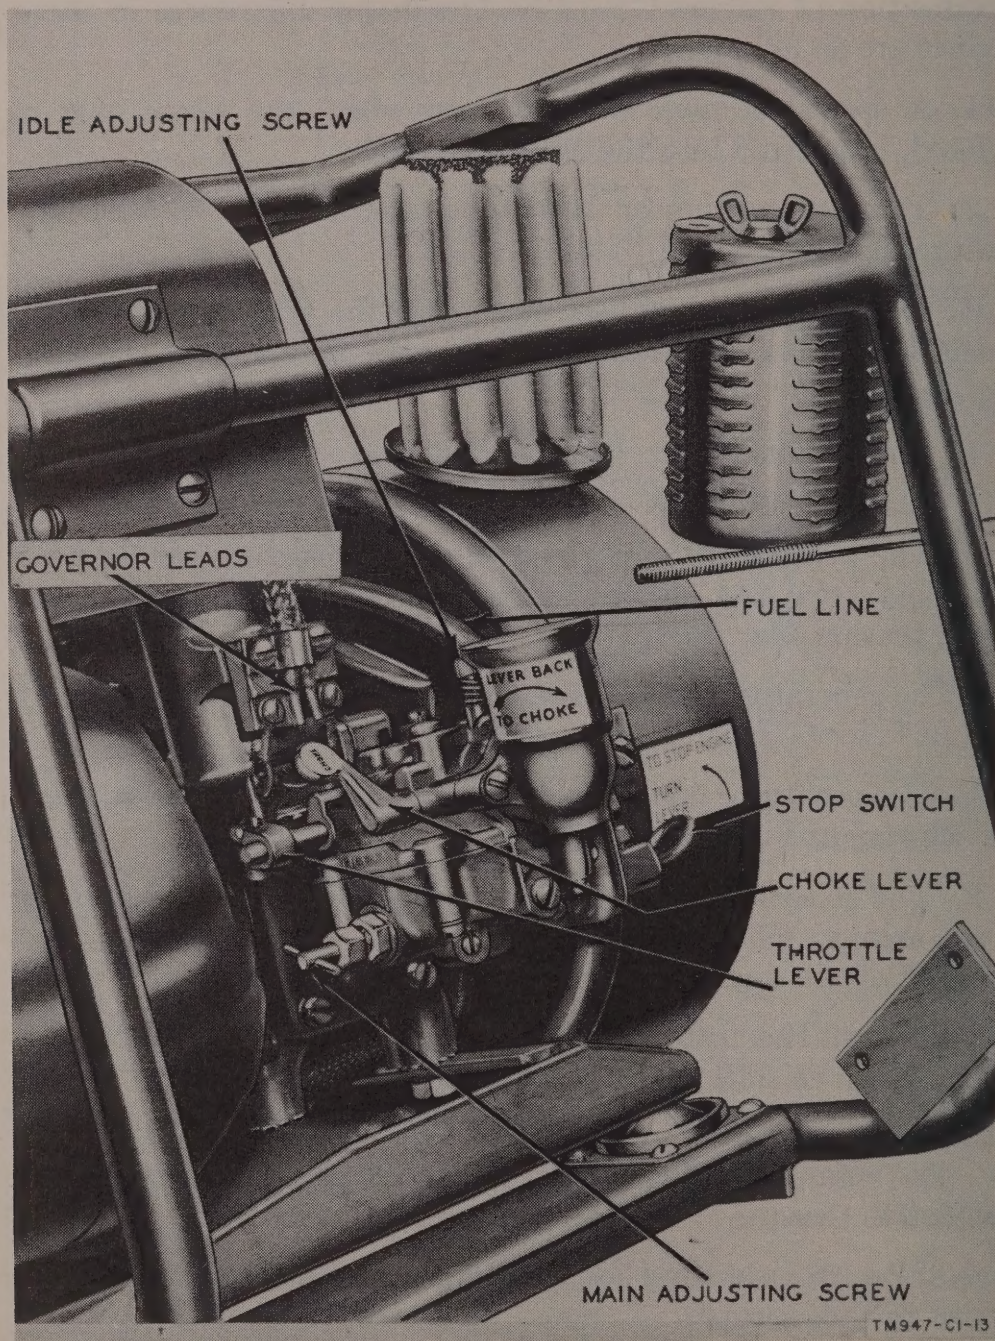

Figure 7.1. Power Unit PE-210-B, carburetor adjustments and controls.
Page 13. Fig. 7. Insert figure 7.1 after figure 7.
a. ROPE STARTING POWER UNIT PE-210-B. (1) The carburetor adjustments have been factory set and, unless changed, do not need readjustment each time the engine is started. See paragraph 67.1 for instructions for carburetor adjustments.
(2) Move the choke lever to the closed position (fig. 7.1). To close the choke, pull the choke lever toward the air cleaner.
(3) Slip the knotted end of the starter rope into the notch of the starter pulley and wind it clockwise around the pulley. Hold the unit frame with one hand and pull the starting rope up sharply with the other hand. If the engine does not start after four or five crankings, refer to paragraph 59 for the possible cause.
(4) When the engine starts, move the choke lever away from the air cleaner to its fully open position. If the engine will not run unless the choke is partially closed, readjust the carburetor in accordance with instructions in paragraph 67.1.
(a) Close the main adjusting screw (fig. 7.1) by turning it clockwise as far as it will go. Note the number of turns so that the screw can be reset to its original position.